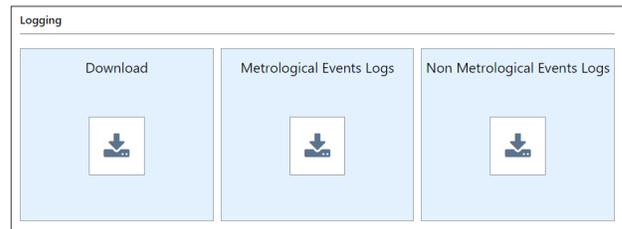

Figure 148: Logging screen
2. On the Logging screen (Figure 148), select the appropriate log to download a .zip file of the logs on the Prover.